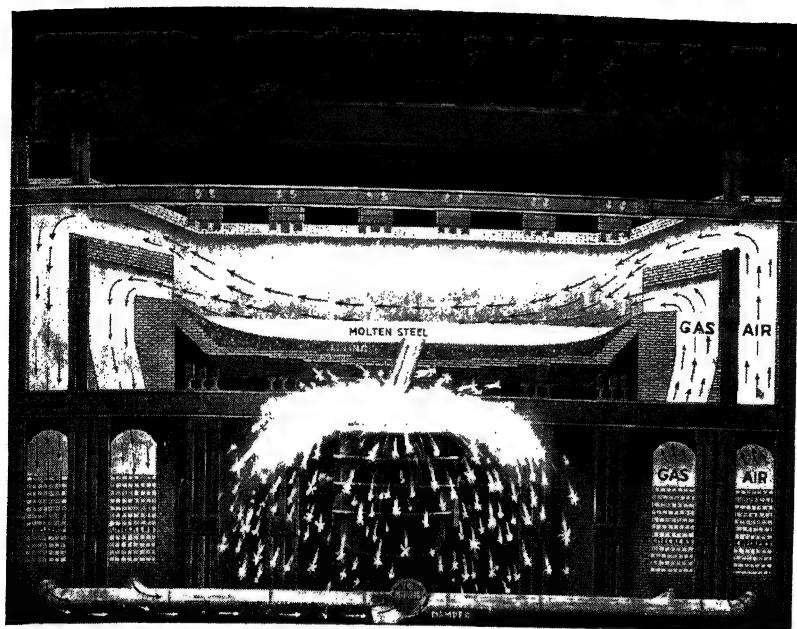

Fig. 263. The cross section of an open-hearth furnace
**Open-Hearth Process for Making Steel.** Iron ores suitable to be used in the Bessemer converter have become more or less scarce, so those high in phosphorus content must now be used. These ores, because of the phosphorus, demand a different process, known as the "open hearth," for being made into steel. The open hearth is a large, shallow saucer or tray lined and inclosed with firebrick (see Fig. 263). The hearth or working bed is about 40 feet long and 16 feet wide. The charge consists of pig iron (often added from the blast furnaces) and scrap iron. This is the scrap iron generally found in the hands of junk dealers. Hot gases are forced into the furnace and burned above and around the charge until it melts and forms a molten mass. As the heating continues, the impurities burn off leaving almost pure iron. To make this iron into steel, weighed quantities of carbon and manganese are added just as in the Bessemer process. It takes upward to 12 hours, depending upon the quantity of the charge, to make steel by this method. The advantage of the open-hearth process is the removal of the objectionable phosphorus. It also makes use of the many tons of scrap iron that are formed and collected daily in this country. Formerly only poor grades of steel were made in the open-hearth furnace, but modern methods have improved the product.